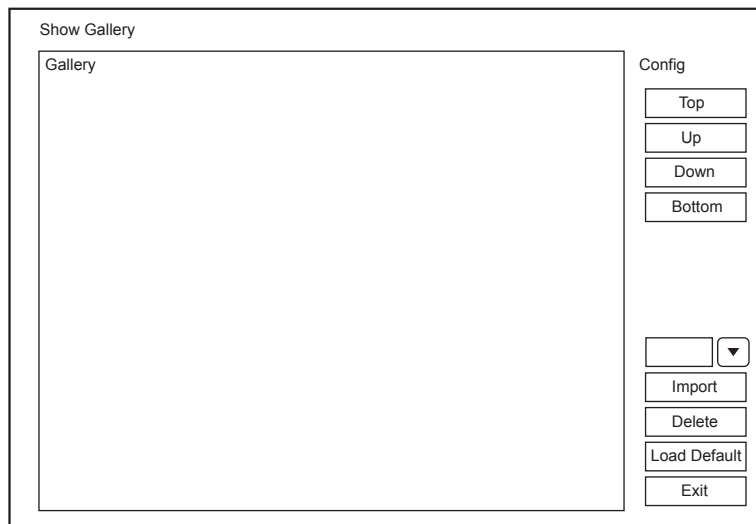

Figure 4-4 Show Gallery
1. Click **Show Gallery** to enter the **Show Gallery** screen, as shown in Figure 4-4.